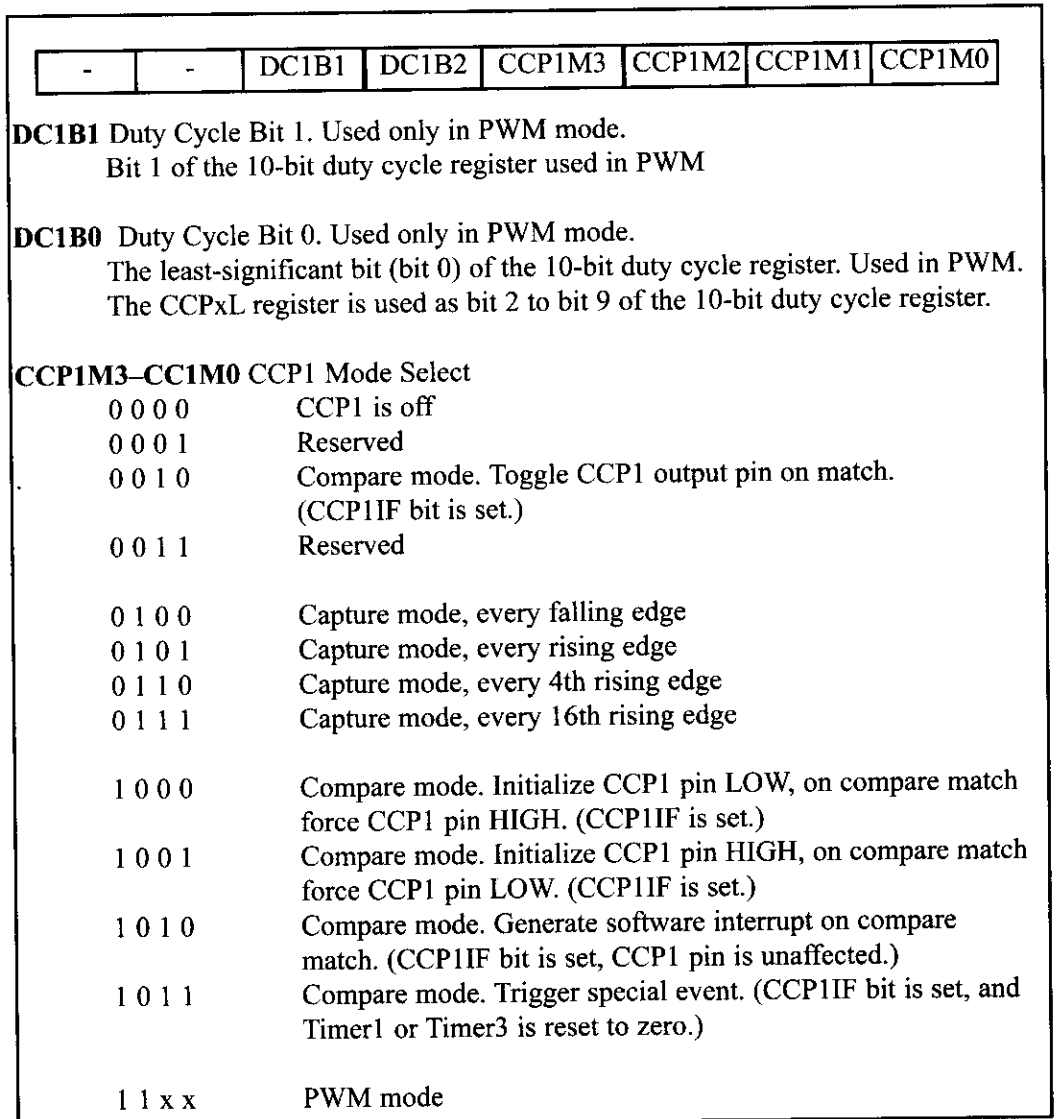

Figure 15-1. CCP1 Control Register. (This register selects one of the operation modes of Capture, Compare, or PWM.)
(a) CCPxCON is an 8-bit control register. We select one of the compare, capture, and PWM modes using this register. See Figure 15-1.
(b) and (c) CCPRxL and CCPxH form the low byte and the high byte of the 16-bit register. This 16-bit register can be used either as a 16-bit compare register, or a 16-bit capture register, or an 8-bit duty cycle register by the PWM, but not all at the same time. See Figures 15-1 and 5-2. The CCP1CON register selects the mode of operation.
Using Figures 15-1 and 15-4, find the following:
- (a) From Figure 15-1 we have 00000010 (binary) or 0x20 for the CCP1CON register.